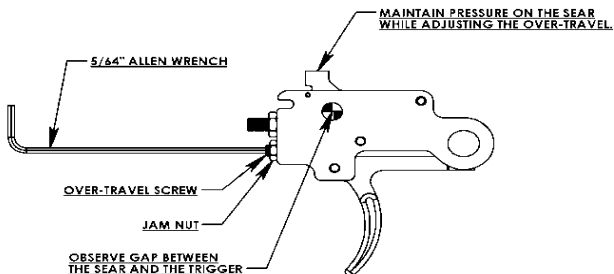

Figure 34.
4. Turn the screw until the desired over travel is achieved and lock into place by turning the brass jam nut clockwise until it is tight against the trigger housing. (Figure 34.)